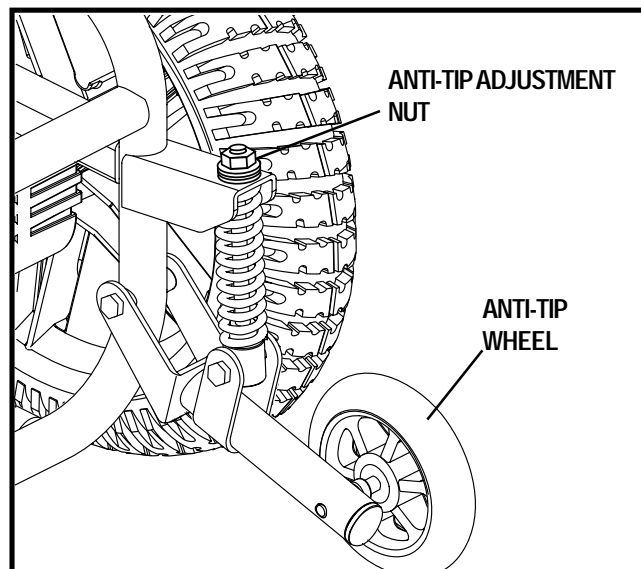

Figure 21. Anti-Tip Adjustment
6. Adjust the anti-tip adjustment nut so that the anti-tip wheel is 1.27-2.54 cm (0.5-1 in.) off of the ground. See figure 21.